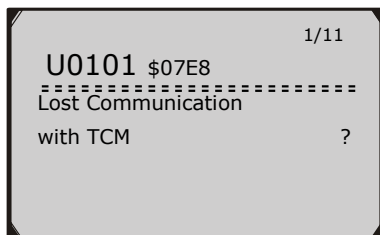

Figure 5.55
- 1) Repeat steps in the **Read Codes** section to identify DTCs. (Figure 5.55)